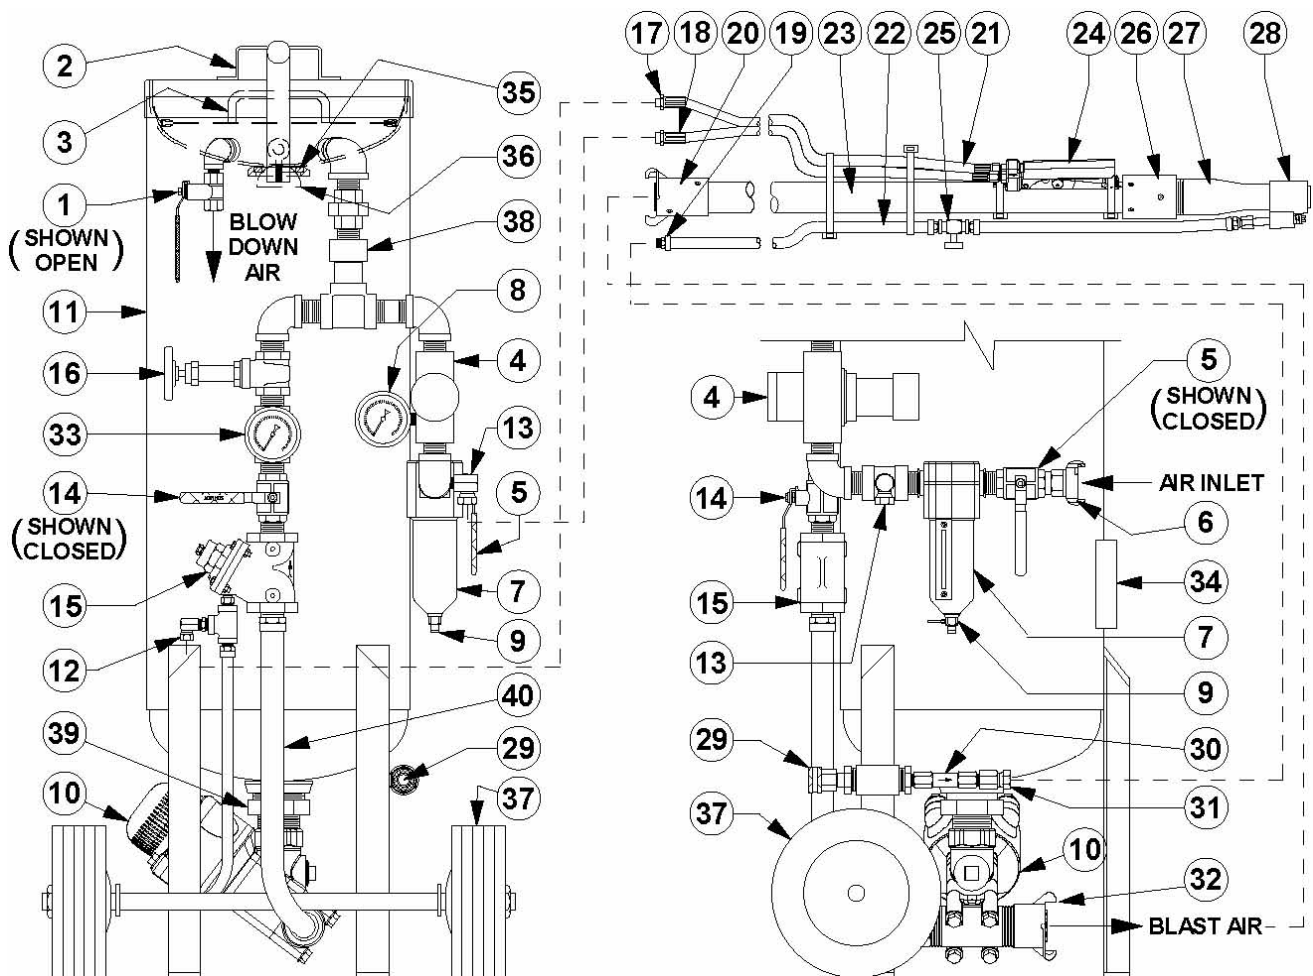

Figure 6.2 – Typical Mini Abrasive Blaster
- 6.2.1. Close the air inlet ball valve (#5). The ball valve is closed when the handle is fully turned to the position shown in Figure 6.2 (handle perpendicular to body). The handle tab will bottom against the ball valve body in the closed position.
- 7.1.2. Remove the vessel lid (#2) and screen (#3) to check that the popup (#36) has dropped open. The popup dropped away from the popup gasket (#35) indicates that the blast vessel (#11) is depressurized. See Figure 6.2 and 7.1.